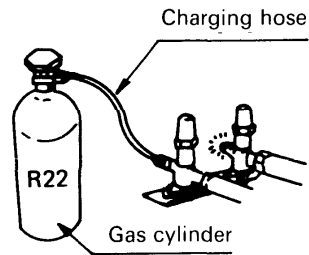

Fig. 12
- Connect refrigerant charging cylinder to narrow tube service valve, and open the valve of the charging cylinder. Fig. 12